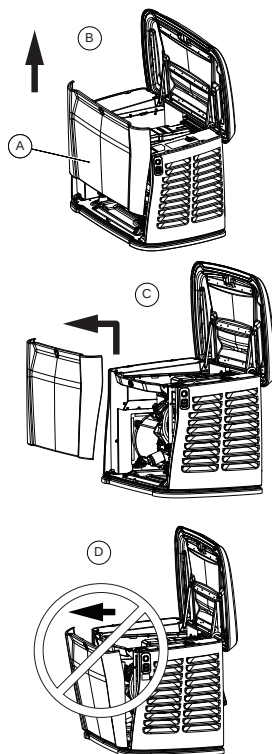

Figure 2-4. Remove Front Access Panel
See Figure 2-4. Remove front access panel (A) by lifting straight up and out after opening generator lid.